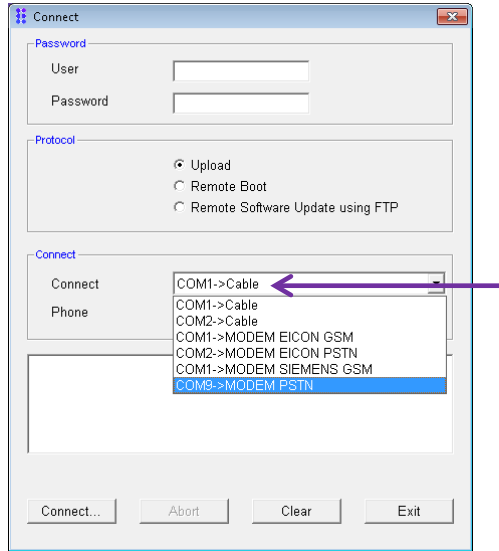

Figure 17: Choose COM Port to Connect to CP
2. Click the dropdown list of the **Connect** field, as illustrated in Figure 17 below.